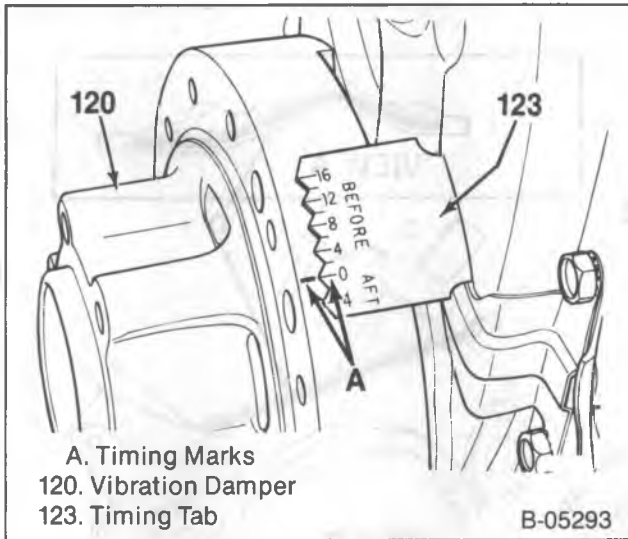

Figure 72—Timing Mark
2. Crank the engine until the mark on the torsional damper lines up with the center or "0" mark on the timing tab (figure 72). The engine must be in the number one firing position. This may be determined by placing fingers on the number one cylinder's valves as the mark on the damper comes near the "0" mark on the crankcase front cover. If the valves are not moving, the engine is in the number one firing position. If the valves move as the mark comes up to the timing tab, the engine is in the number six firing position and should be turned over one more time to reach the number one position.